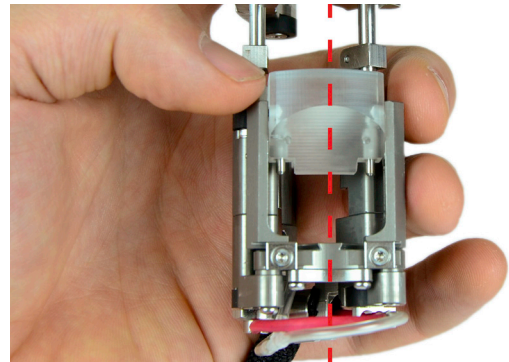

Figure 27
- e. Center the wedge and probe holder arms as shown in Figure 27.